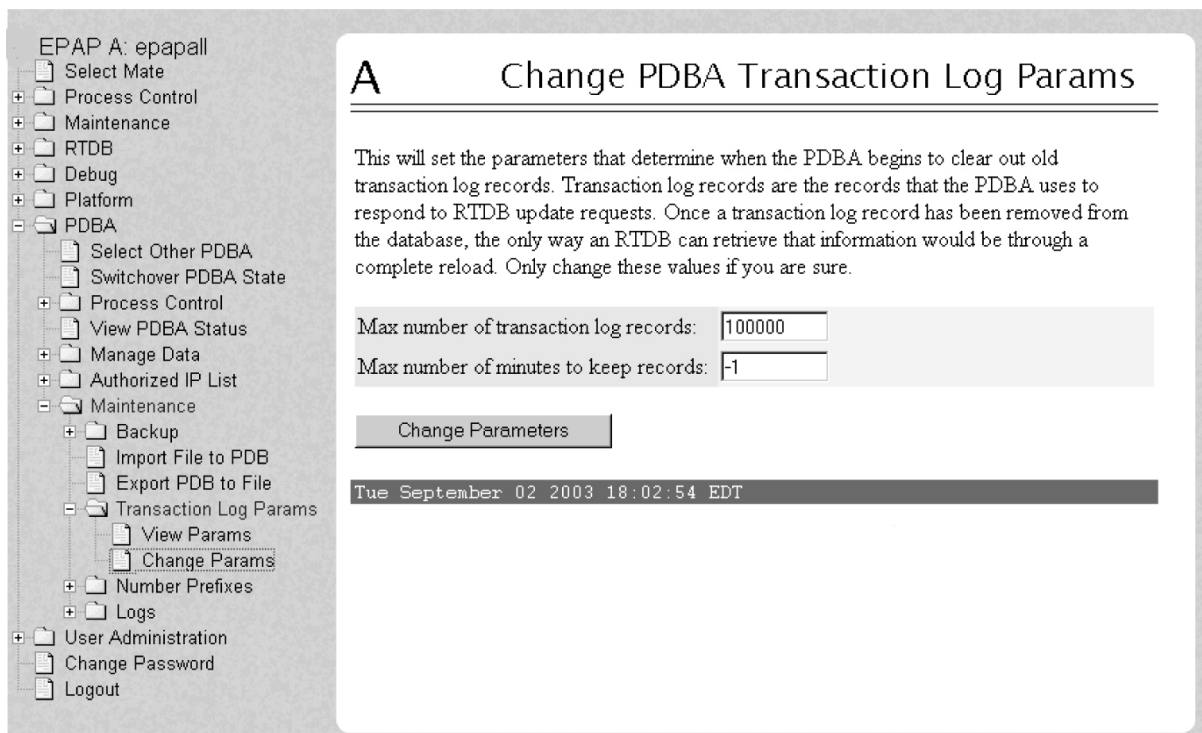

Figure 37: Changing Transaction Log Parameters
10. If you wish to increase the size of the transaction logs, select **PDBA> Maintenance > Transaction Log Params > Change Params** as shown in *Figure 37: Changing Transaction Log Parameters*.